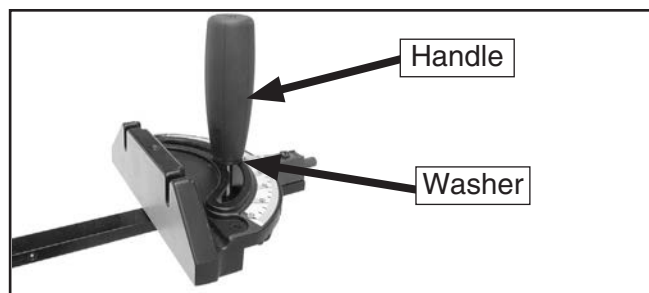

Figure 43. Miter gauge installed.
- Install the handle with 8mm flat washer onto the miter gauge, as shown in **Figure 43**.